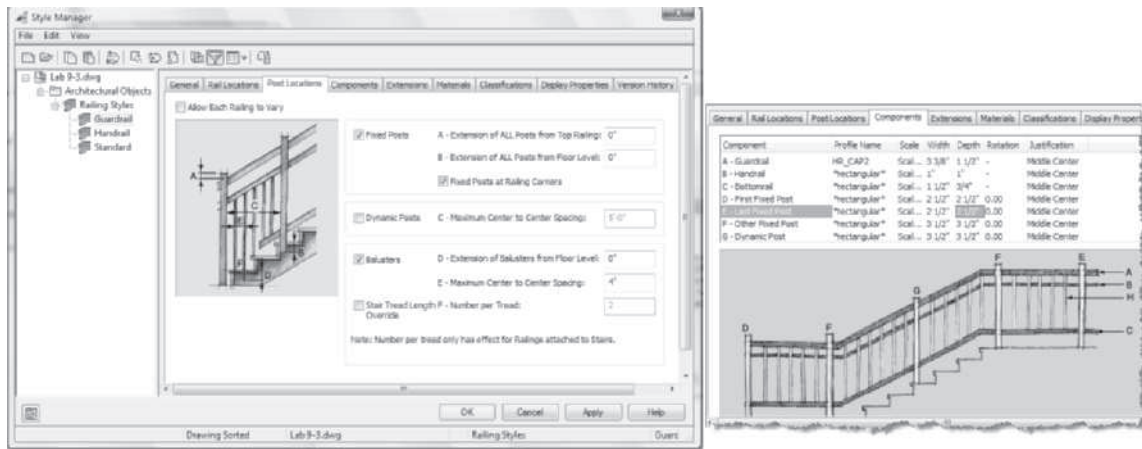

FIGURE 9.54 Post Locations and Components tabs for Guardrail railing style
- Select the **Post Locations** tab (see Figure 9.54) and edit as follows: clear the **Allow Each Railing to Vary** checkbox, check **Fixed Posts**, set A-Extension of All Posts from Top Railing = **0** and B-Extension of All Posts from Floor Level = **0**, check **Fixed Posts at Railing Corners**, clear **Dynamic Posts**, check **Balusters** ON and set D-Extension of Balusters from Floor Level = **0**, set E-Maximum Center to Center Spacing = **4" [100]**, and clear Stair Tread Length Override.
7. Select the **Components** tab and edit the D-First Fixed Post: Width = **2.5"** [64] and Depth = **2.5"** [64]. Edit E-Last Fixed Post: Width = **2.5"** [64] and Depth = **2.5"** [64] as shown in Figure 9.54.